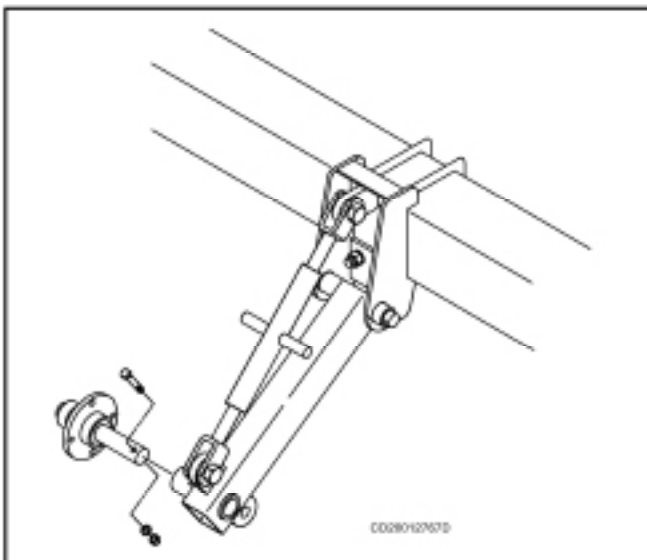

Figure 30 Fastening Hub & Spindle Assembly
3. Fasten hub and spindle assembly, using 1/2 x 3" hex bolt, lock washer, and hex nut as shown in Figure 30.